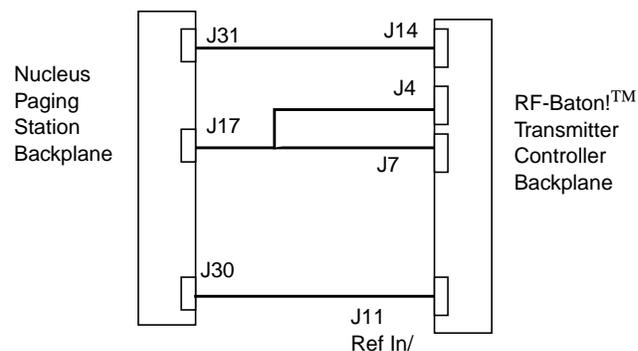

Figure 5-14: Nucleus Paging Station to the RF-B! Transmitter Controller
- J17—the 50-pin multiple-purpose connector at the Nucleus paging station (see Table 5-4). The cable that terminates at J17 splits and has two terminations at the RF-B! transmitter controller (see Figure 5-14).
- The RF-B! transmitter controller connects to the Nucleus paging station through connectors on the station backplane (see Figure 5-14).